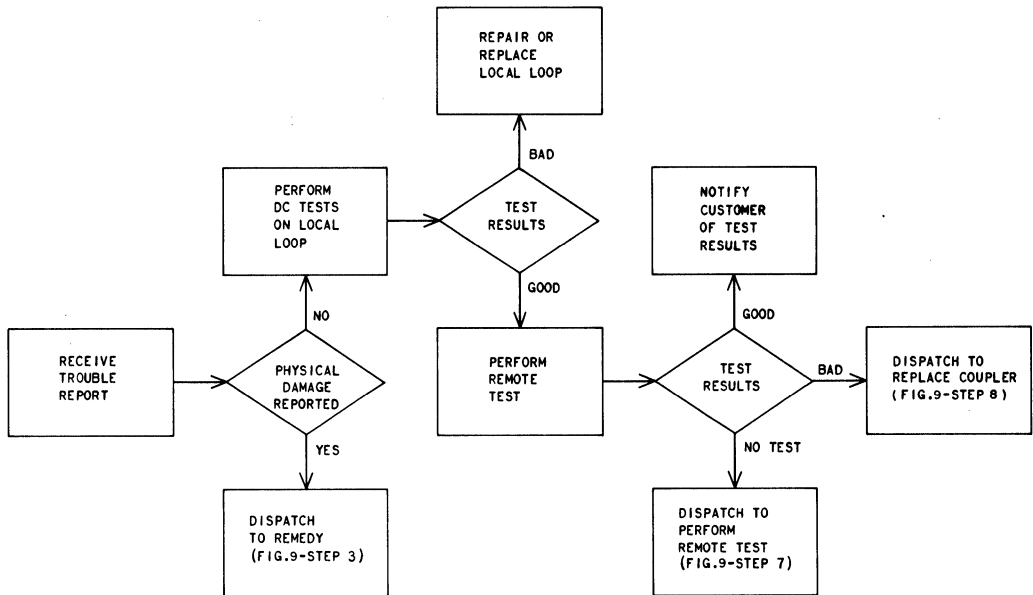
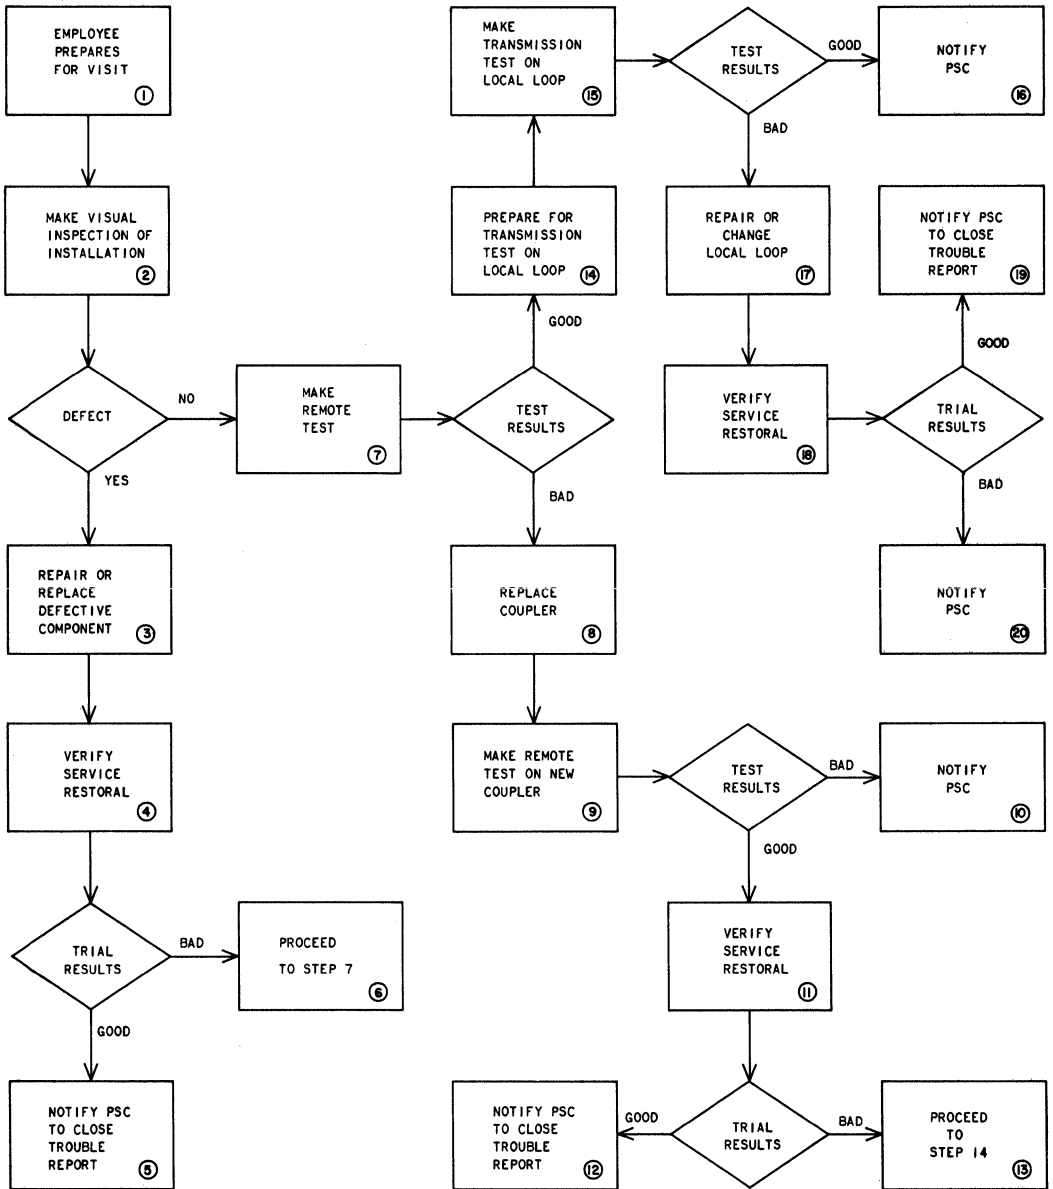

Fig. 8—Basic Activities Prior to Dispatching Employee
Fig. 9—Activities for Clearing or Troubleshooting Trouble at a Coupler Station
4.05 The PSC must analyze the information provided by the customer to determine if a trouble condition does exist and the most probable cause. Available tests (ie, normal dc loop test and remote test of coupler) should be performed to determine if a craft employee must be dispatched to customer premises. The conditions which could warrant a maintenance visit and the efforts which lead to each are shown in Fig. 8.
4.06 On a maintenance visit, the employee should proceed to perform the most likely necessary tests or evaluations to isolate and clear the trouble within the station as directed by the PSC. The employee may begin with the steps shown in Fig. 8 when the test results and analysis received from the PSC lead to that particular activity. If a trouble report is not available or if the report is inconclusive, it is recommended that the employee follow the suggested sequence of activities as illustrated in Fig. 9 and described in the following.